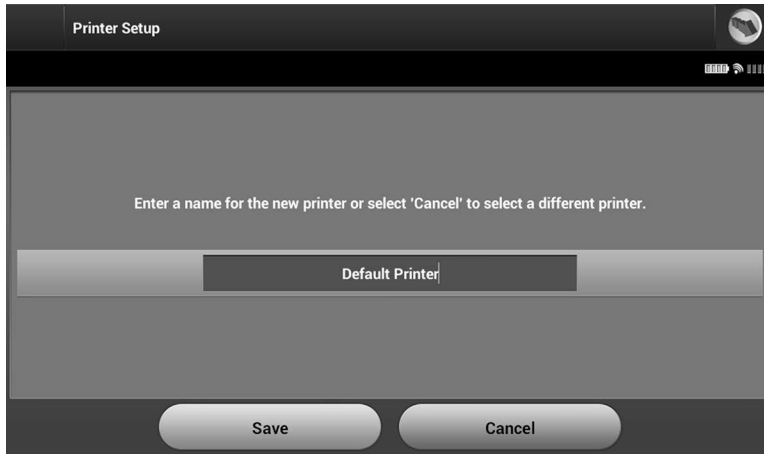

Figure 11: Use the on-screen keyboard to enter a name for the selected printer
4. Select the desired printer from the list and enter the name using the on-screen keyboard (up to 15 characters). A unique printer identifier should appear with the printer selection (Figure 11).